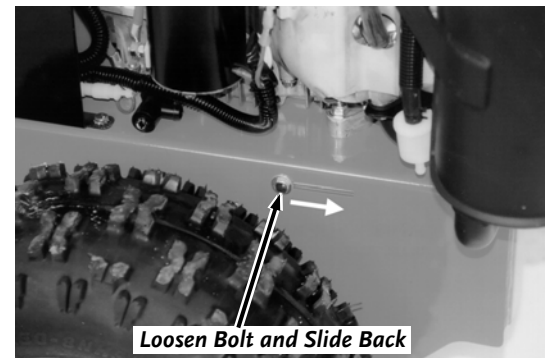

Figure 20
- Loosen the Belt Retainer Bolts on the outside of the Frame (one on each side) and slide the Retainer back (**Figure 20**).